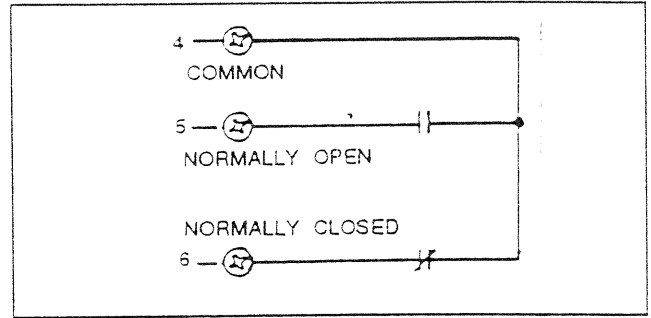

Figure 5 — Auxiliary Contacts Schematic
Control system interconnections (Figure 5) consist of UTILITY 1 and 2, LOAD 1 and 2; and leads 23 and 194. Control system interconnection leads must be run in a conduit that is separate from the a-c power lead. Recommended wire gauge sizes for this wiring depends on the length of the wire, as recommended below:
If desired, you can access a set of Auxiliary Contacts on the Transfer Switch to operate customer accessories, remote advisory lights, or remote annunciator devices. A suitable power source must be connected to the COMMON (C) terminal. The contacts labeled 1, 2 and 3 (Figure 5) are connected at the factory for operation of transfer switch advisory lights. Contacts 4, 5 and 6 are available for customer use.
2. With an accurate AC voltmeter, check for correct voltage across terminal lugs N1 and N2; N1 to NEUTRAL; and finally N2 to NEUTRAL (Figure 5 on Page 9).